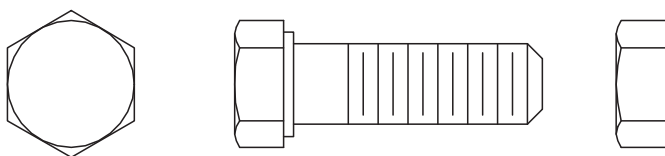

Fig. 5-13
2. Use the **LINE**, **POLYGON**, **CIRCLE**, and **ARC** commands to create the hex bolt shown in Fig. 5-13. Save the drawing as **prb5-2.dwg**.